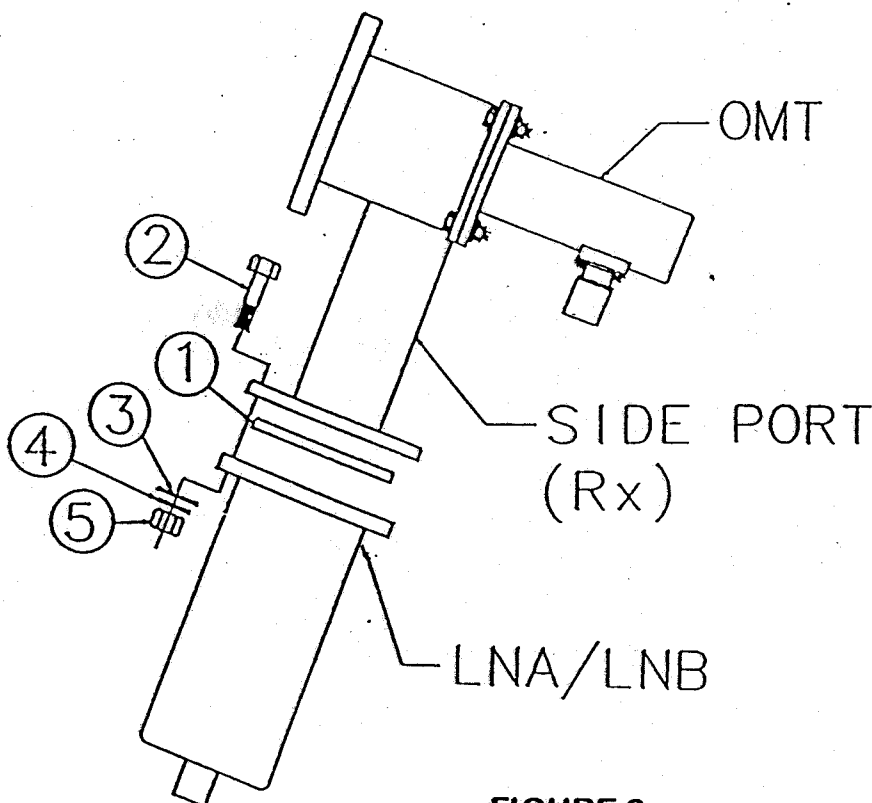

FIGURE 2
1. Apply silicone grease to gasket (item#1) and place gasket in groove in flange of LNA/LNB (customer supplied), as shown below in figure 2.
2. Attach LNA/LNB to side port (Rx) flange of OMT with (10) 1/4-20 x 1.00" bolts, (10) 1/4" flatwashers, (10) 1/4" lockwashers, and (10) 1/4-20 hex nuts (items# 2,3,4,5).